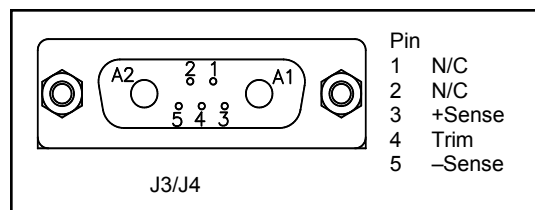

Figure 7. Dual (Mini Module) Trim Connections
- ◆ Connector pin J3-3 is the +Sense and J3-5 is the -Sense for output 1. J4-3 is the +Sense and J4-5 is the -Sense for output 2. (See Fig. 7)
- ◆ J3-4 provides Trim access for output 1 (lower connector), and J4-4 provides Trim access for output 2 (upper connector). (See Fig. 7)